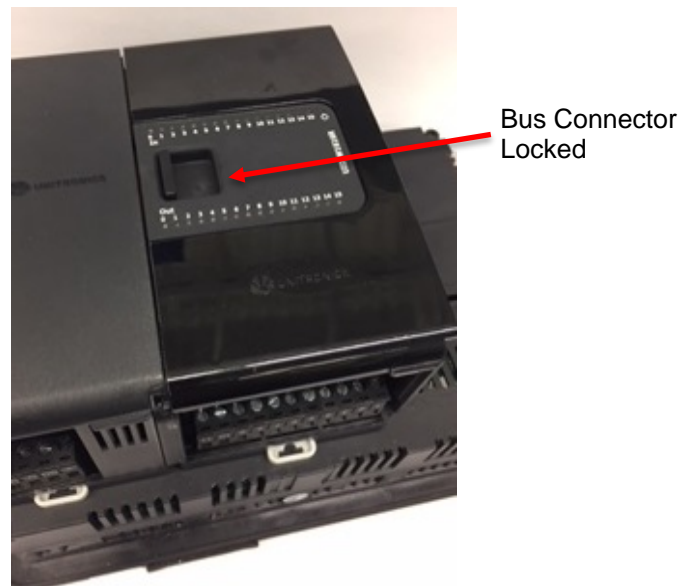

Figure 17. Bus Connector
5. Slide the Bus Connector Lock all the way to the left as shown in Figure 17.